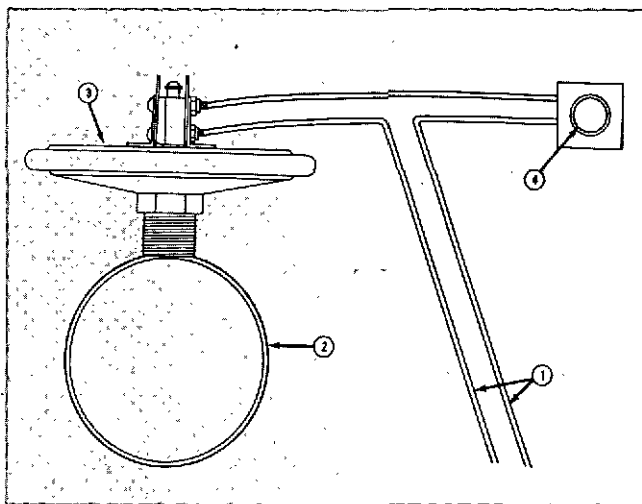

Fig. 10-1-8, N21905. Air cleaner restriction vacuum switch diagram
3. A second method is utilization of a vacuum gauge and warning light that performs the same function as described in Step 1 and 2. Components for vacuum gauge include electrical source (1, Fig. 10-1-8) air piping (2), vacuum switch (3) and red warning light (4).